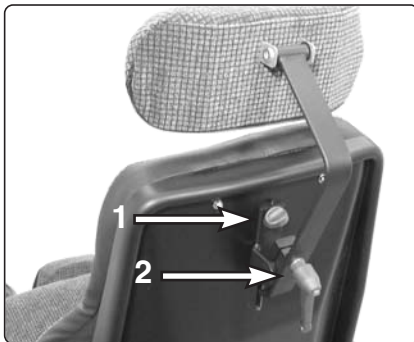

Fig. 19. Adjusting the head rest.
1. Loosen the knob on the back of the back rest, see Fig. 19:1.
1. Loosen the knob on the back of the back rest, see Fig. 19:2.